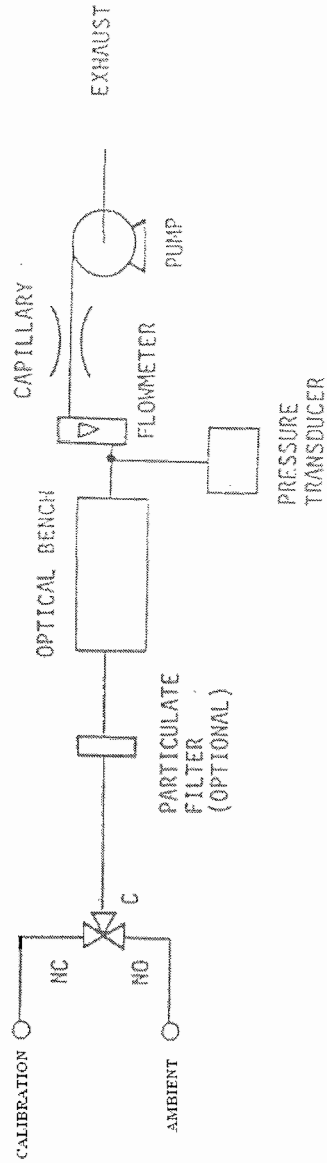

Figure 2 Model 48S Flow Schematic
- i. **Flow Components** - The Model 48S operates at nominal atmospheric pressure. Figure 2 summarizes the flow schematic. A downstream pump and capillary control the sample flow through the optical bench, which is monitored by a rotameter. The nominal flow is 1 liter per minute, with values between ½ - 2 liters per minute acceptable. The span, zero, and sample solenoids are operated by successive engagements of the RUN push-button on the front panel. The control signals for the solenoids go through the microcomputer.